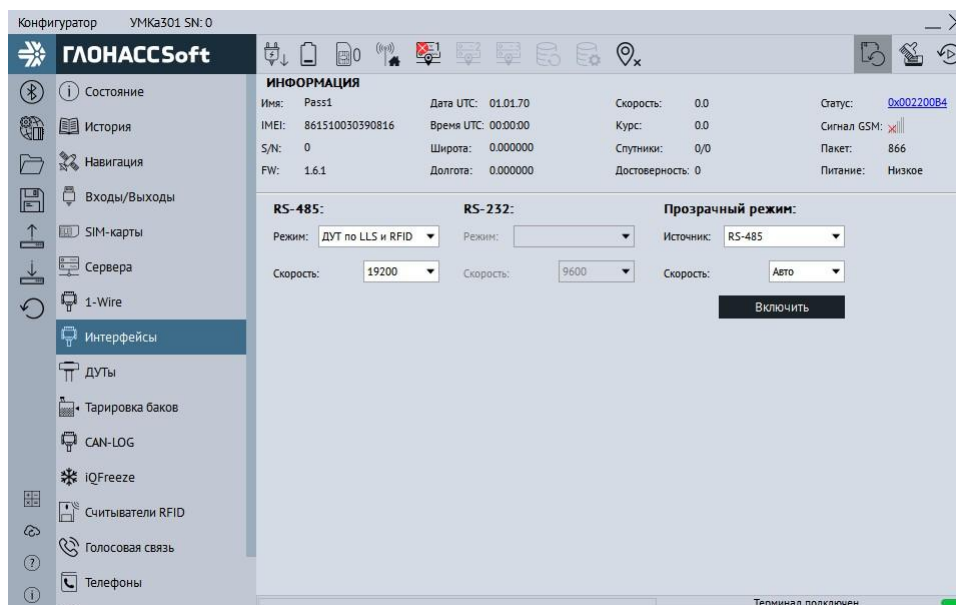

Figure 2 – "Interfaces" tab
- the “Interfaces” tab is used for connecting RS-485 devices to the tracker (Figure 2);